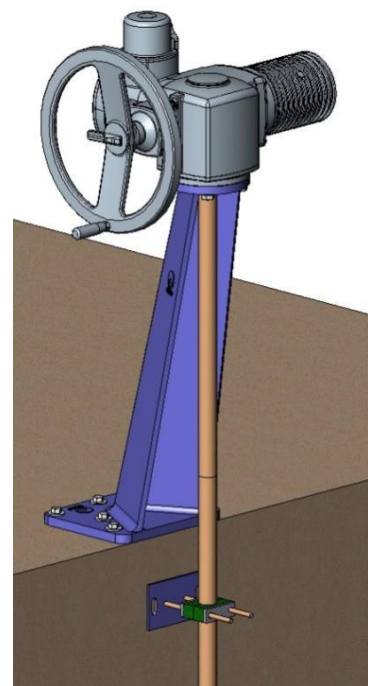

fig. 23
- Possibility of leaning floor stand (fig. 23).